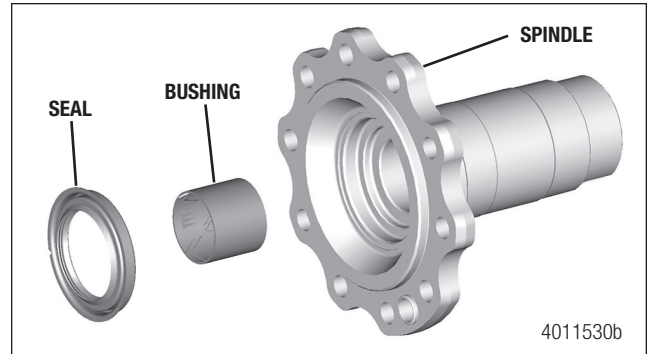

Figure 8.17
3. If removed, use the correct size drivers to install the bushing and grease seal into the spindle. Refer to Section 13 Special Tools on page 81 for tool specifications. Figure 8.17.